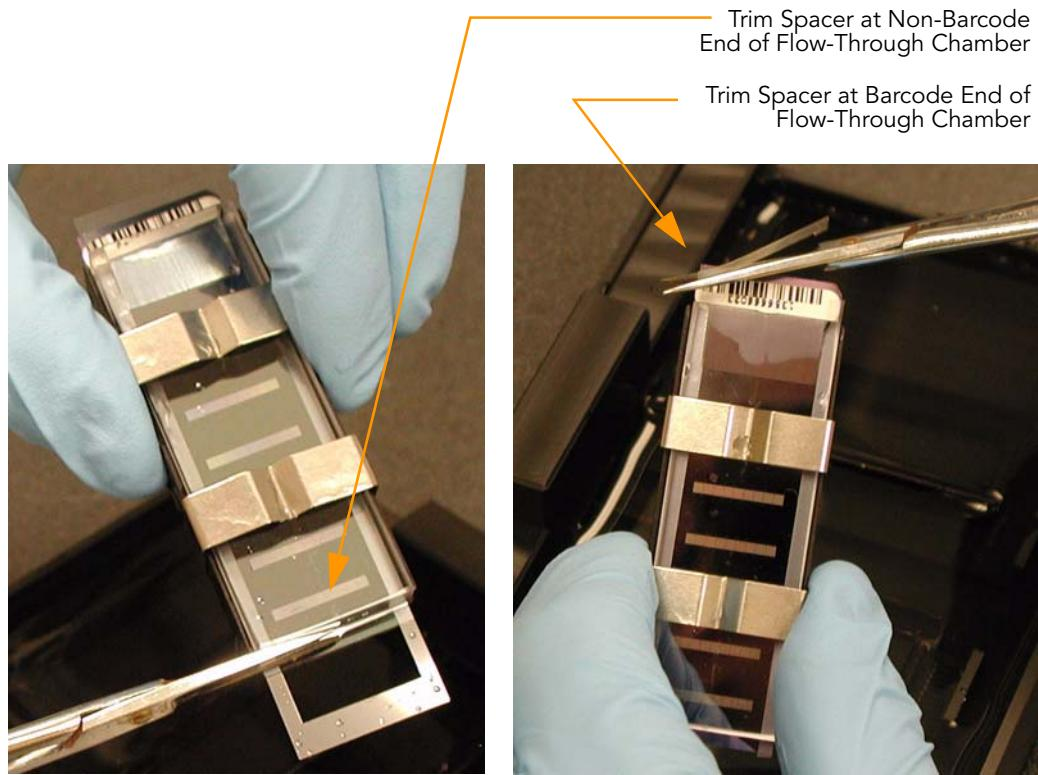

Figure 134 Trimming Spacer Ends from Flow-Through Chamber Assembly
8. Using scissors, trim the ends of the clear plastic spacers from the Flow-Through Chamber assembly (Figure 134):